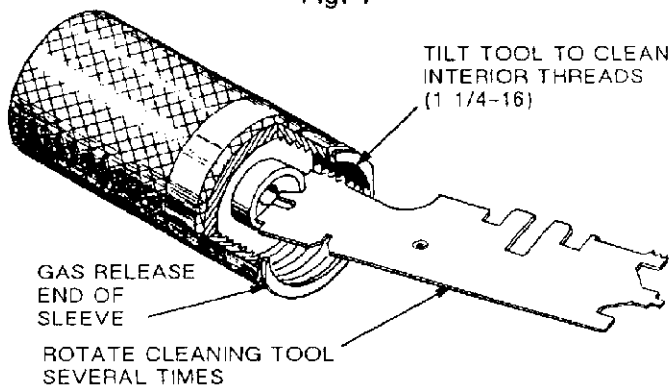

Fig. 8
2. To clean interior threads (1 1/4-16) in gas release end of sleeve, tilt correct end of cleaning tool and insert into sleeve. Make sure that grooves in tool are aligned with sleeve threads, as shown in Figure 8. Rotate tool until threaded surfaces are clean.